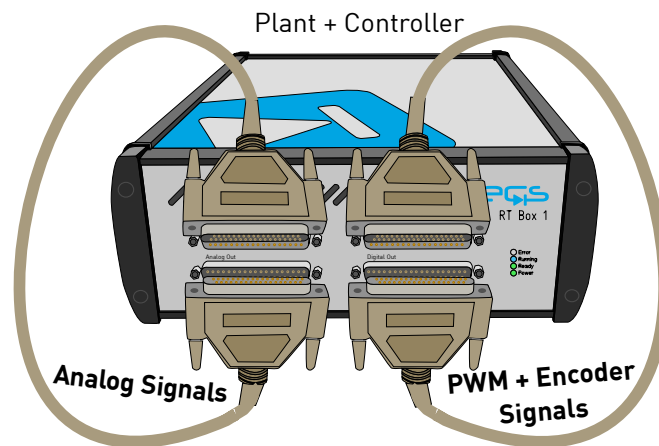

Fig. 7: Hardware configuration for the real-time operation of the demo model
This model can run both, in offline mode on a computer or in real-time mode on the PLECS RT Box. For the real-time operation, one RT Box (referred to as “Plant + Controller”) needs to be set up as demonstrated in Fig. 7.
- 1** Connect the Analog Out interface to the Analog In interface with one DB37 cable, and the Digital Out interface to the Digital In interface with another DB37 cable (as shown in Fig. 7).